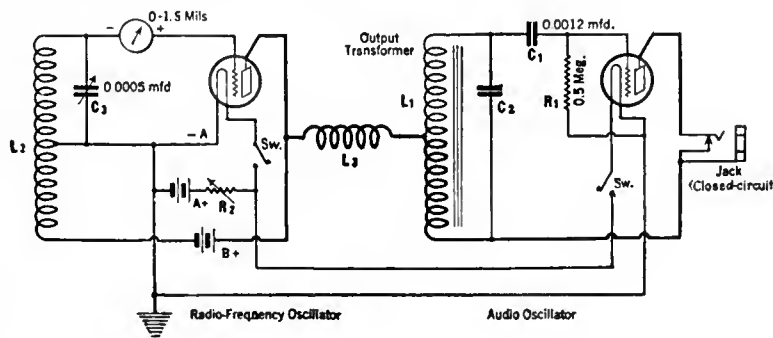

FIG. 1
MEASURING THE CAPACITY OF A MICA CONDENSER BY MEANS OF THE MODULATED OSCILLATOR SHOWN IN FIG. 1
**A**MONG other uses to which the modulated oscillator described in the June **RADIO BROADCAST** and shown schematically here in Fig. 1 may be put, is that of comparing or measuring the capacities of small condensers. For example, it may be necessary to measure the maximum and minimum capacity of a variable condenser in terms of a standard, or it may be desirable to calibrate such a condenser. The modulated oscillator is very useful for this purpose, making it possible to substitute visible measurements for the audible indications of a bridge balance.